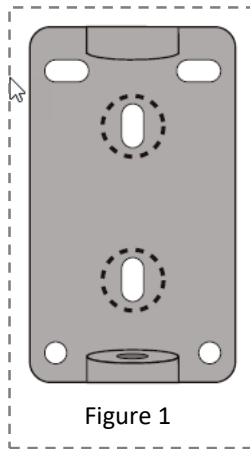

Figure 1
1. Measure and mark the mounting holes on the wall using the dispenser mounting bracket as a template (Figure 1)